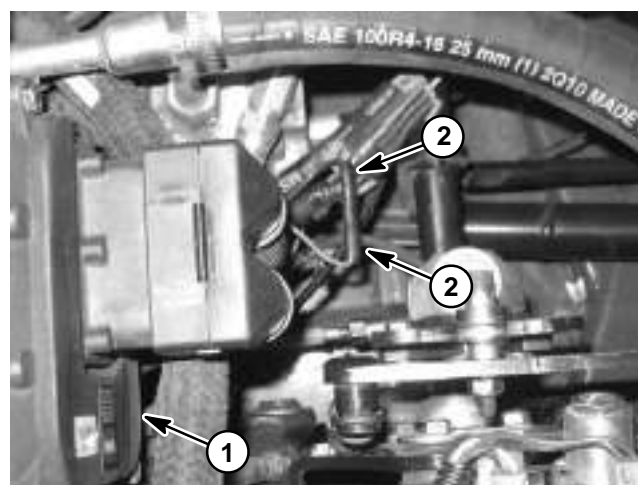

Figure 10
4. Remove diagnostic tether cap from diagnostic shunt wires and connect the two (2) shunt wires together (Fig. 10).